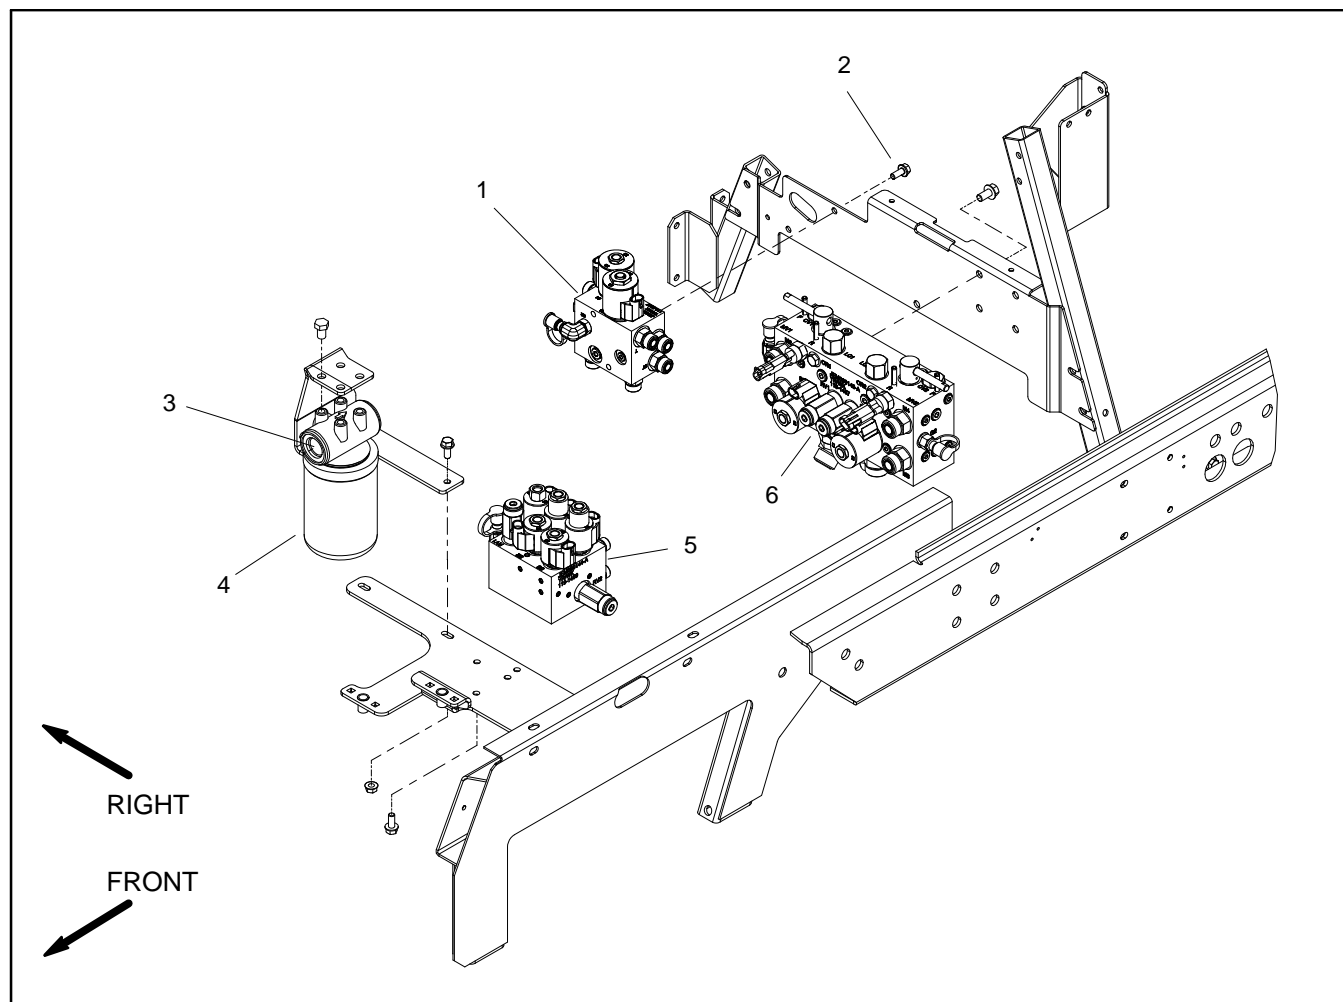

Figure 85
## Removal (Fig. 85)
7. Remove hydraulic manifold from the frame using Figure 85 as guide.
## Installation (Fig. 85)
2. Install hydraulic manifold to the frame using Figure 85 as guide.